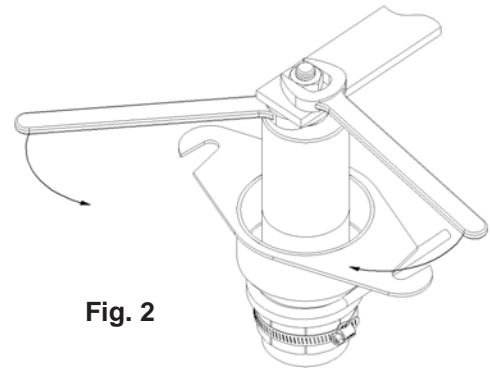

Fig. 2
5. Loosen the hose clamp on the 1K1703 and then using two opposing wrenches tighten the captive nut to secure the anode connection in place, as shown in Fig. 2. **DO NOT PUT UNDUE STRESS (>20 ft. lb.) ON THE ANODE OF THE TUBE. THIS WILL CAUSE THE GLASS TO CRACK, LOSE VACUUM AND VOID THE WARRANTY!**